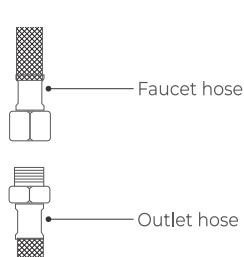

Figure 5
- 1. If the faucet hose is 3/8", it can be directly connected to the outlet hose. (**Figure 5**)